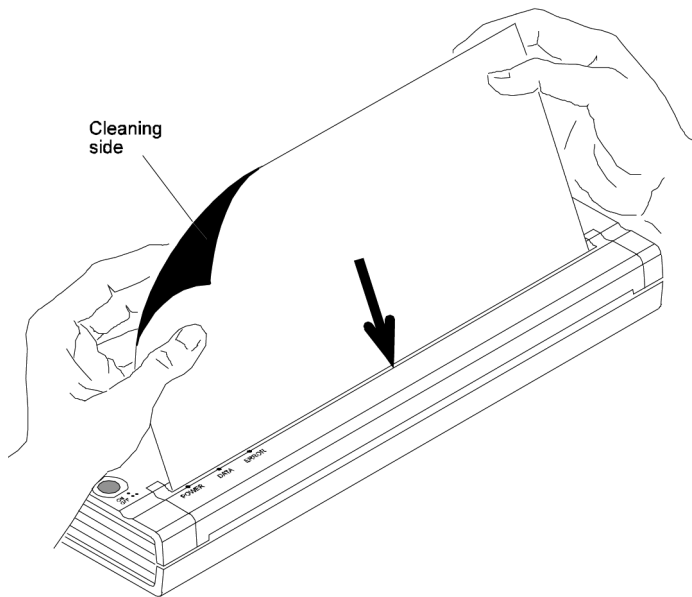

Figure 17. Inserting the cleaning cloth
4. Insert the black cleaning cloth that came with the printer into the printer’s paper input slot with the rough black side, which contains the cleaning material, towards the rear of the printer. See Figure 17. The printer pulls the cleaning cloth through.